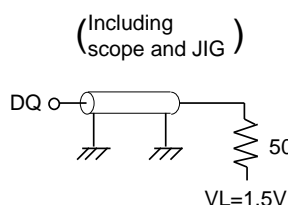
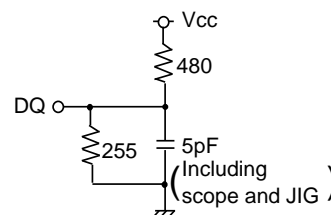

Fig.1 Output load
Fig.2 Output load for ten, tdis
Output loads ----- Fig1, Fig2
5. Transition is measured $\pm 500\text{mv}$ from steady state voltage with specified loading in Figure 2.